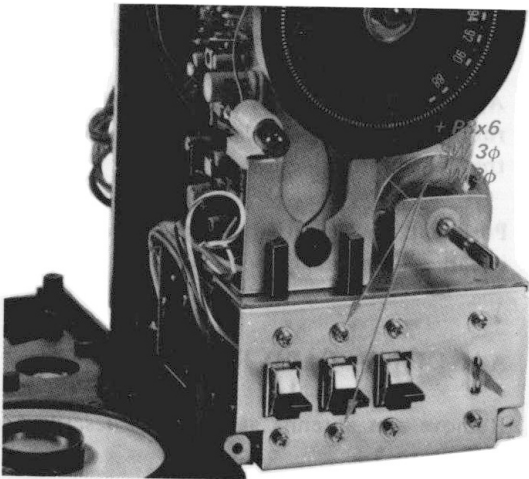

Fig. 2-4. Switch removal
2. All switches can be removed by loosening the two screws securing them to the chassis. See Fig. 2-4.